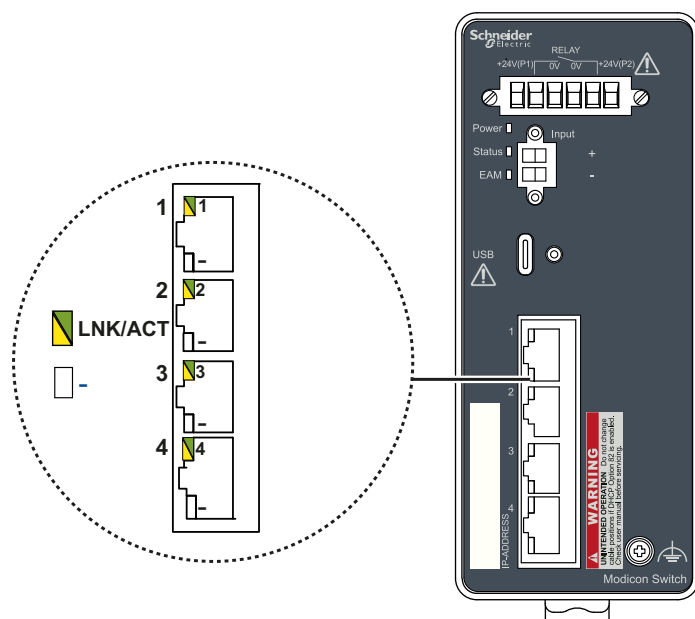

Figure 2: LED display elements for device variants with 4 × RJ45 sockets
- ▶ For device variants with 4 × RJ45 sockets: The LEDs are directly located at the ports. See figure 2 on page 28.